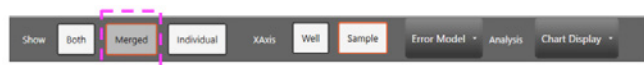

Fig. 8. Merged well selection from the Concentration tab.
5. On the Concentration tab, examine each sample's replicate wells for uniformity. If all wells have similar concentrations, merge the wells for the final analysis (see Figure 8). Refer to the QX200 Droplet Reader and QX Manager Software Regulatory Edition (10000107224) or QX200 Droplet Reader and QX Manager Software Standard Edition (10000107223) User Guide or the QX ONE Software Regulatory Edition Instruction Manual (10000116656) for a detailed explanation of merged wells.